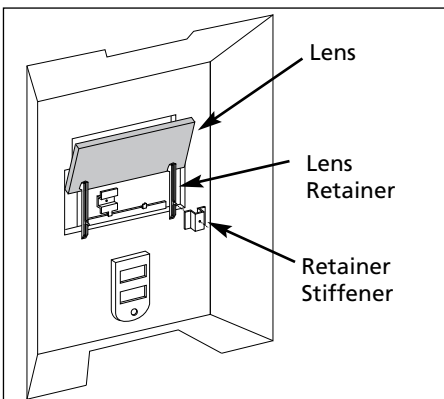

Figure 7
3. Attach the stiffeners over the pins on the lens retainers (See Figure 7).